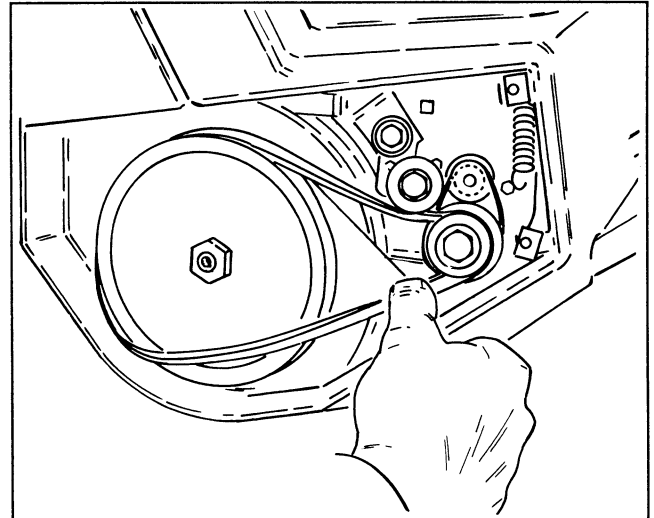
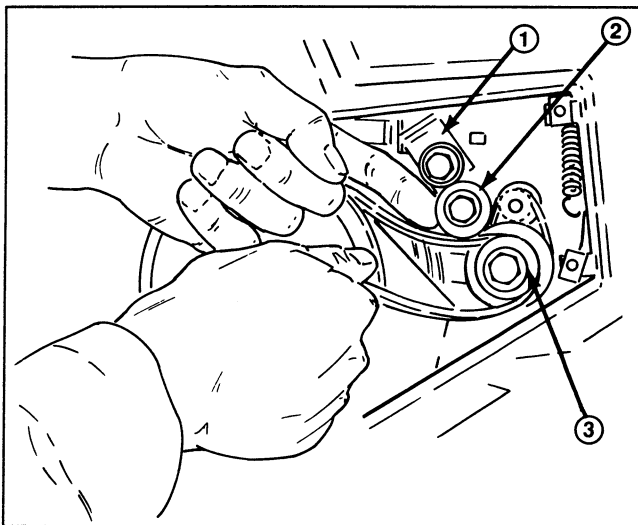

Figure 18
Figure 17
4. Slip new belt over small pulley. Lift up idler arm and slip belt under idler pulley (Fig. 17). Rotate rotor with left hand while walking (sliding) belt onto large pulley with right hand (Fig. 18).
8. Slip large belt over small pulley (Fig. 18). Refer to Large Belt Replacement, steps 4–6.